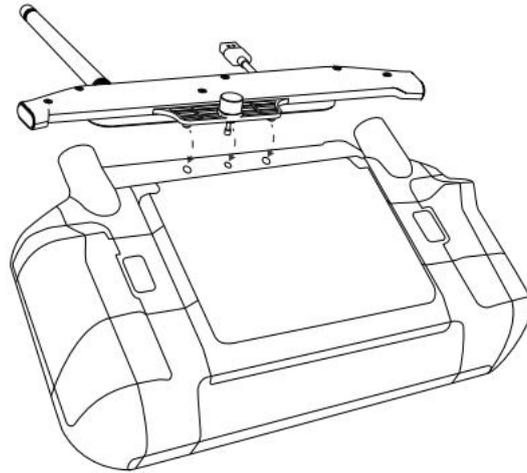

图 4
1. Insert the two fixed posts of the expansion remote control into the positioning holes on the back of the remote control and tighten the middle hand screw (open the DJI remote control USB-A cover before operation), as shown in Figure 4.